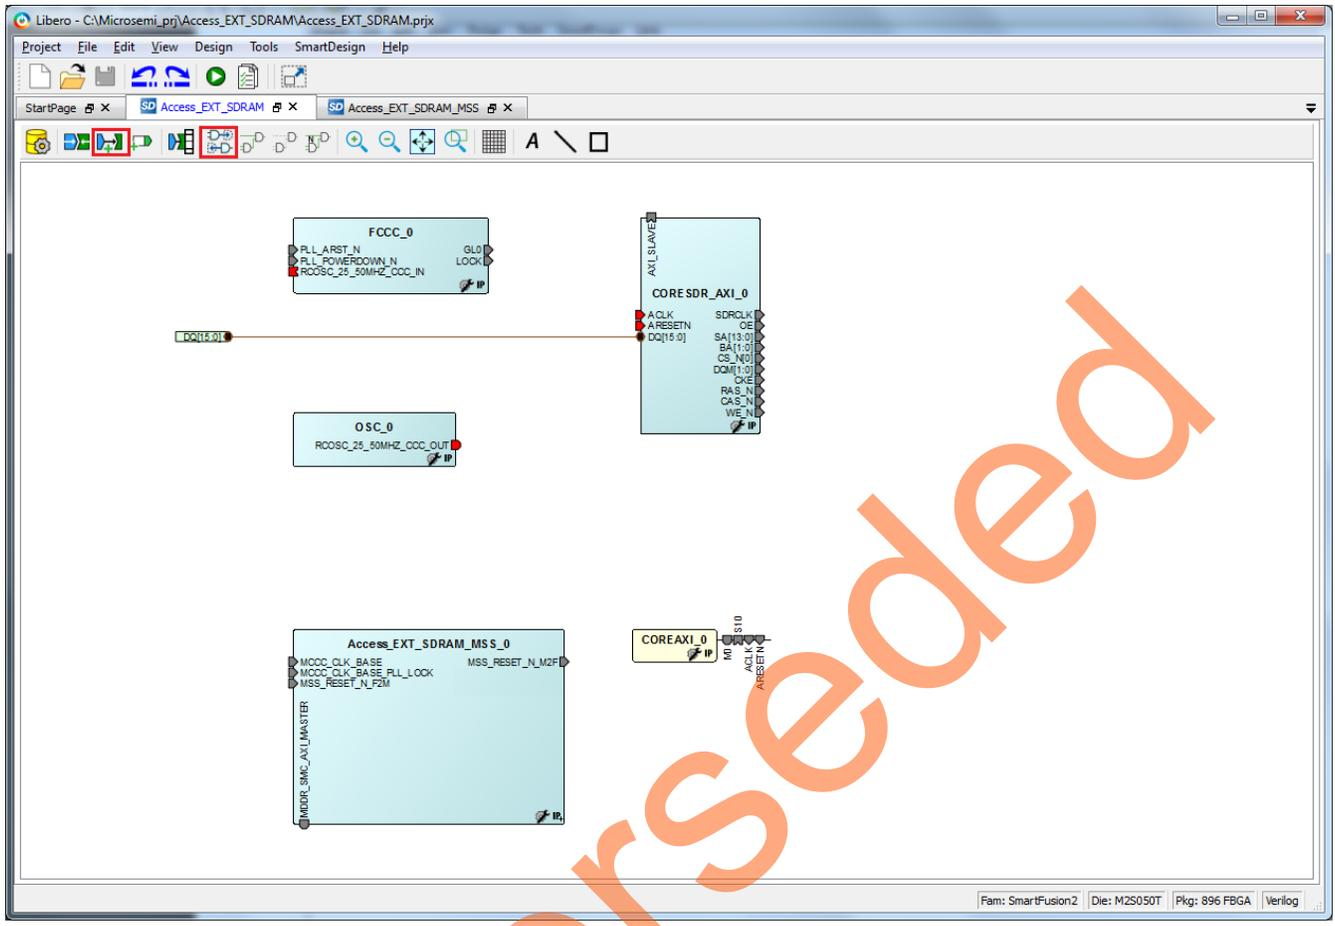

Figure 23. Changing to Connection Mode
- The first method is by using the Connection Mode option. Change SmartDesign to the connection mode by clicking **Connection Mode** on the **SmartDesign** window, as shown in Figure 23. The cursor changes from the normal arrow shape to the connection mode icon shape. Select the first pin and drag it to the second pin that needs to be connected.